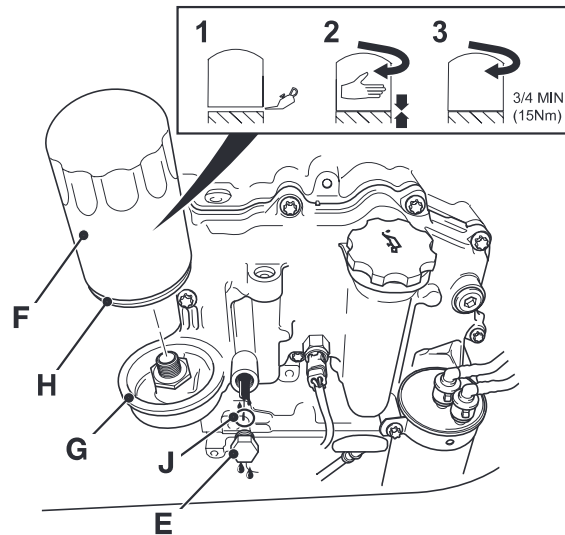

Fig 277.
- 4 Place a container of suitable size under drain plug **E** to catch the oil. ⇒ Fig 277. (□ 279).